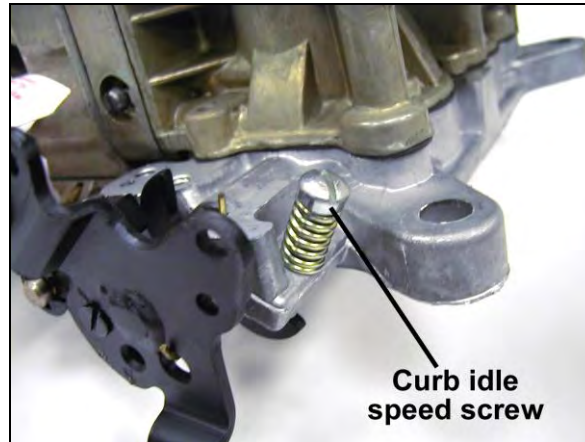

Figure 2
2. Now that the idle mixture is set, it may be necessary to go back and reset the idle speed using the curb idle speed screw, as shown in Figure 2.